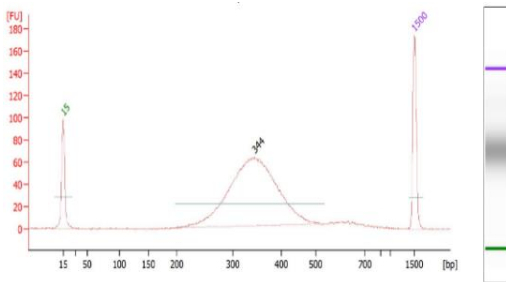

Figure 1 Agilent 2100 Bioanalyzer Fragment Size Distribution Results of the Purified PCR Product
- 3.6.2 Assess the fragment size distribution of purified PCR products with electrophoresis-based equipment such as Bioanalyzer, Tapestation (Agilent Technologies), LabChip® GX, GXII, GX Touch (PerkinElmer), or Fragment Analyzer™ (Advanced Analytical). Figure 1 shows the final size distribution is 250 bp~450 bp.